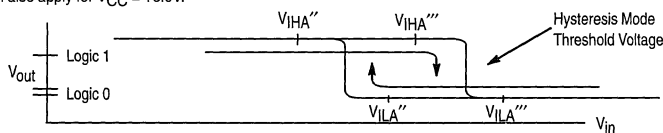

Figure 1. Hysteresis Mode Threshold Voltage
2. Output latched to logic high state prior to test. V_{IHA'}, V_{ILA'} are standard logic 1 and logic 0 M TTL threshold voltages. V_{IHA''}, V_{ILA''}, V_{IHA'''} and V_{ILA'''} are logic 1 and logic 0 threshold voltages in the hysteresis mode as shown in Figure 1 on page 3-63.
- Output latched to logic high state prior to test. V_{IHA'}, V_{ILA'} are standard logic 1 and logic 0 MTTL threshold voltages. V_{IHA''}, V_{ILA''}, V_{IHA'''} and V_{ILA'''} are logic 1 and logic 0 threshold voltages in the hysteresis mode as shown in Figure 1 on page 3-63.